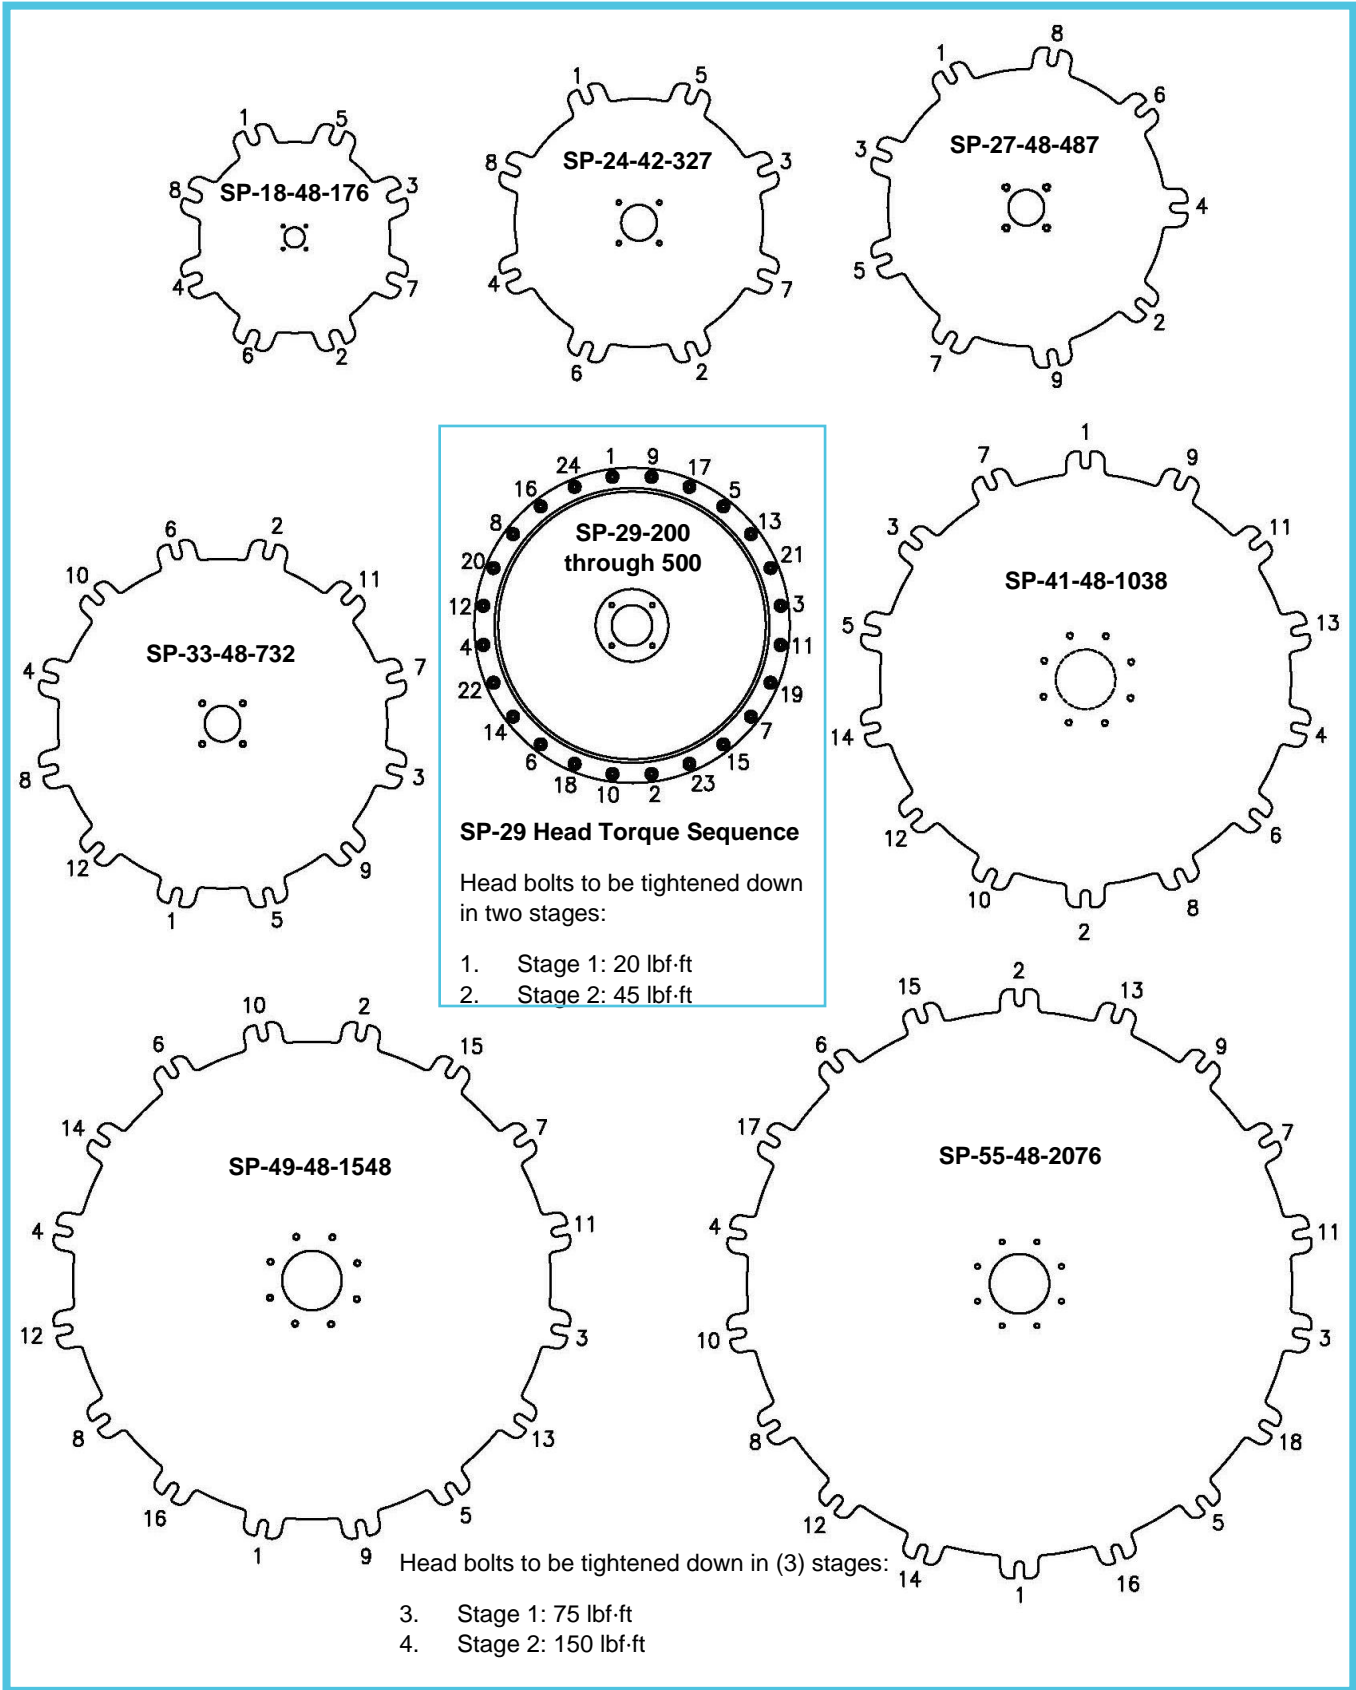

Figure 30: Head Torque
9. Re-install head and torque bolts following Figure 30: Head Torque, and all other associated pipe, pneumatic tubing, and hardware.